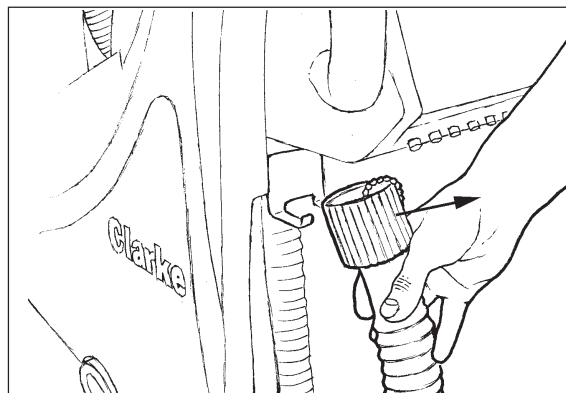

Figure 8
4. Unhook the recovery tank drain hose valve from its hanger bracket and lay the loose end on the floor (See figure 8.)